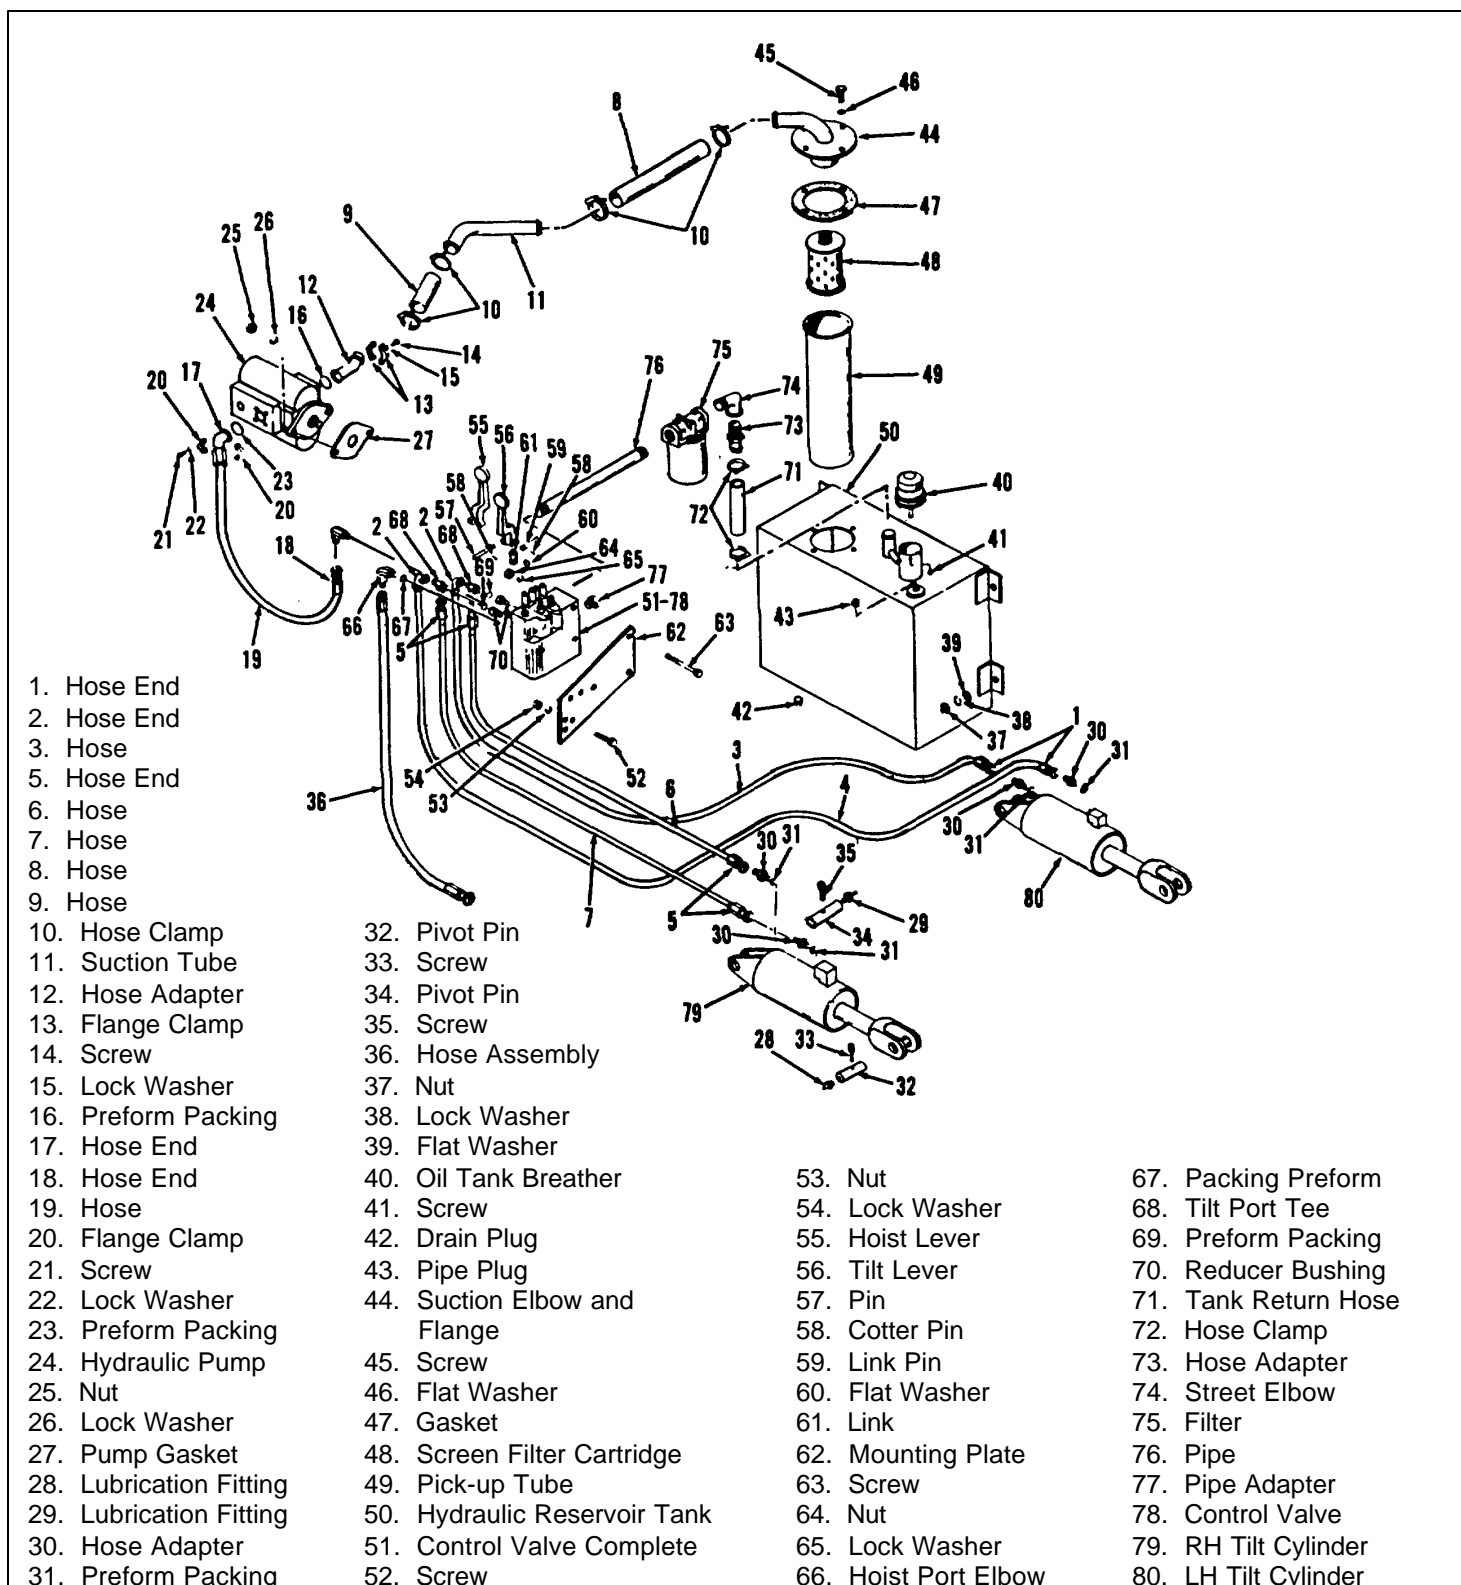

Figure 4-2. Hydraulic System Including Tilt Cylinders
3. Remove lock screws from pins, and drive out pins (see figure 4-2) which attach tilt cylinders to outer uprights. Lift load backrest and forks off carriage.
1. Remove cotter pins (58, figure 4-2) and remove pins (57 and 59), links (61) and operating levers (55 and 56).
**4-36. REMOVAL.** If pump (24, figure 4-2) is to be removed from above, drain cooling system and remove radiator first, for access to pump. Then remove pump as follows: